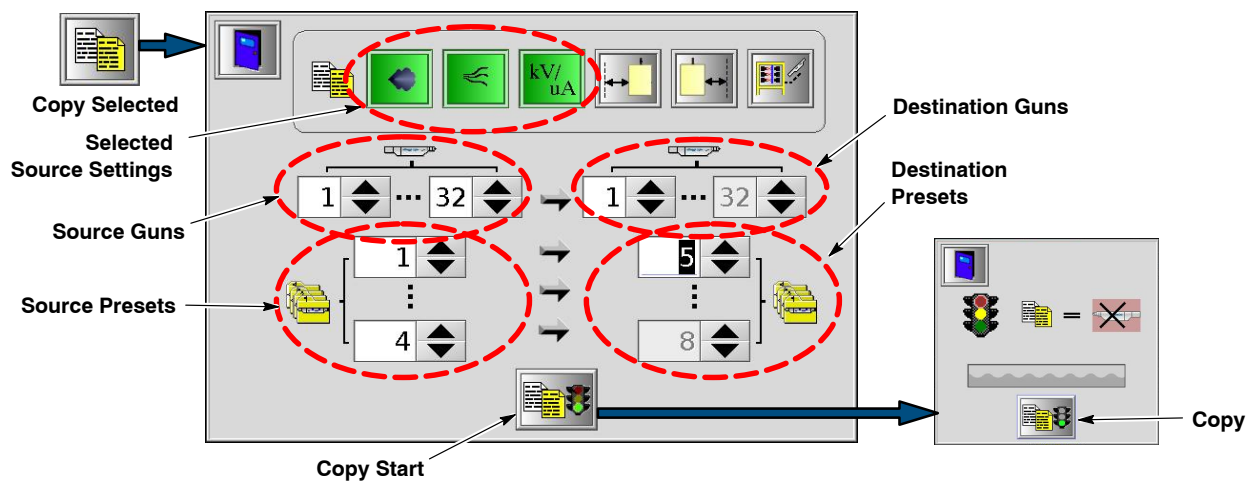

Figure 5-19 Zone Assignments
1. See Figure 5-19. Touch the **Copy Selected** button to open the Copy Selected screen.